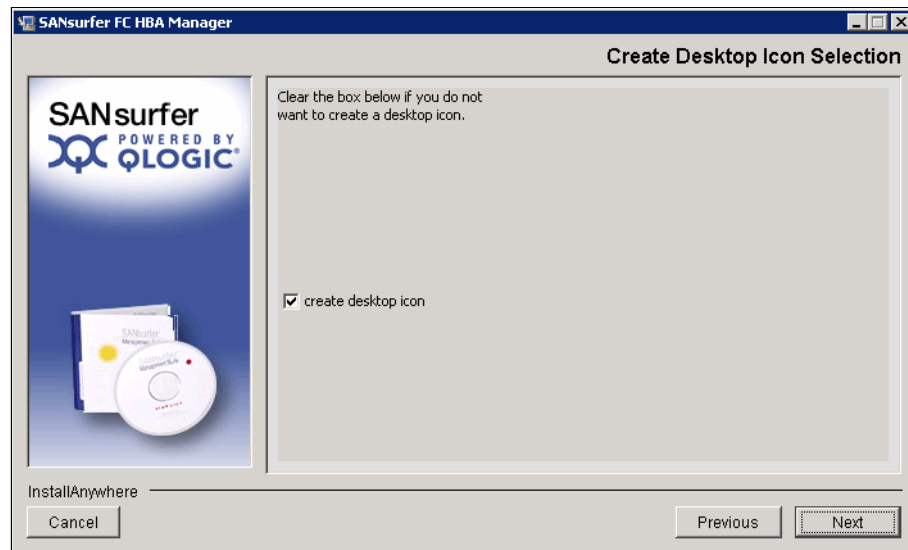

Figure 7-67 Create Desktop Icon Selection panel
6. In the Create Desktop Icon Select panel (Figure 7-67), click **Next**.